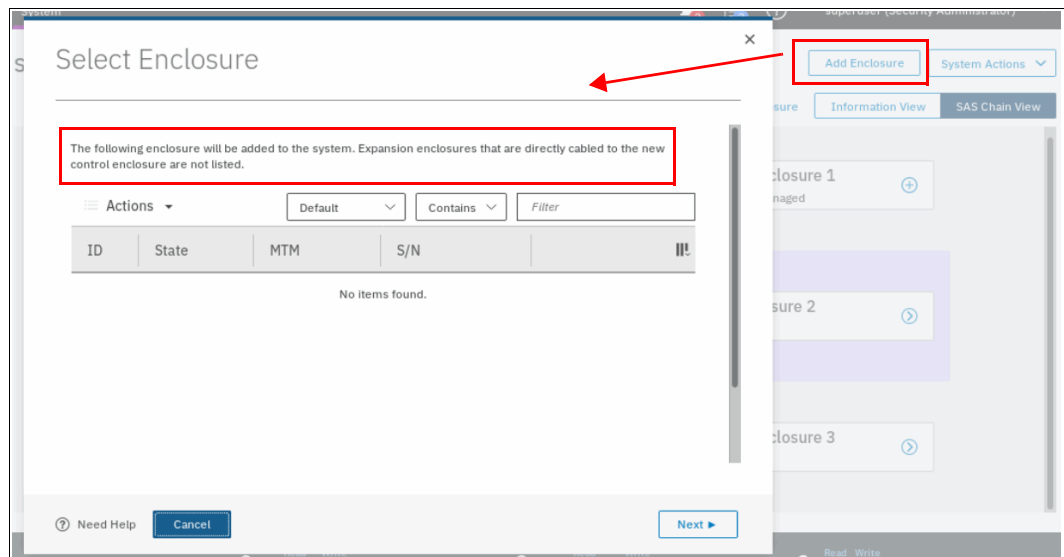

Figure 4-115 Adding an enclosure
2. Select the + next to the enclosure that you want to add or click **Add Enclosure** at the top. These buttons appear only if there is an unmanaged enclosure that is eligible to be added to the system. After they are selected, a window opens, on which you need to select the enclosure you want to add. Expansion enclosures that are directly cabled do not need to be selected, as shown in Figure 4-115.